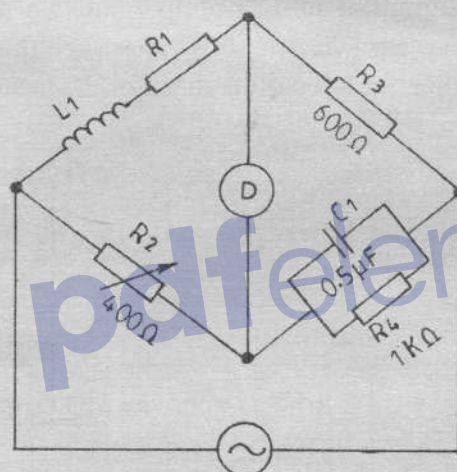

Fig. 1
- (ii) Show that one unit of charge (Q) in cgs electromagnetic units is equal to one unit of charge in MKS units.
- (i) charge (Q) in e.s.u.;
- (ii) magnetising force (H) in e.m.u.
3. (a) Describe the procedure of measuring the depth of modulation of an amplitude modulated (AM) wave using an oscilloscope with the internal timebase switched off and sketch the displayed waveform. (6 marks)
- (ii) Figure 1 shows a circuit diagram of an a.c. bridge.
- (I) Derive the bridge equation at balance.
- (II) Determine the value of R_1 and L_1 .